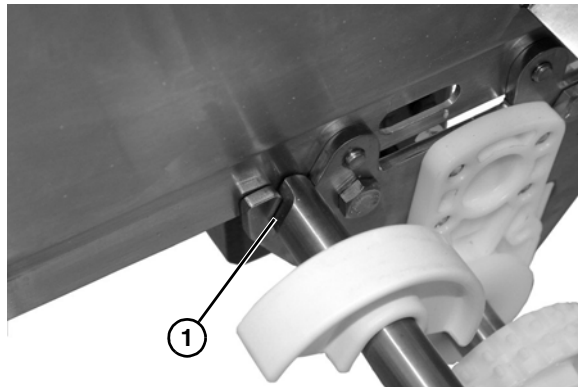

Figure 30
6. When replacing belt return, be sure shaft is seated in pocket on side plate (**Figure 30, item 1**).